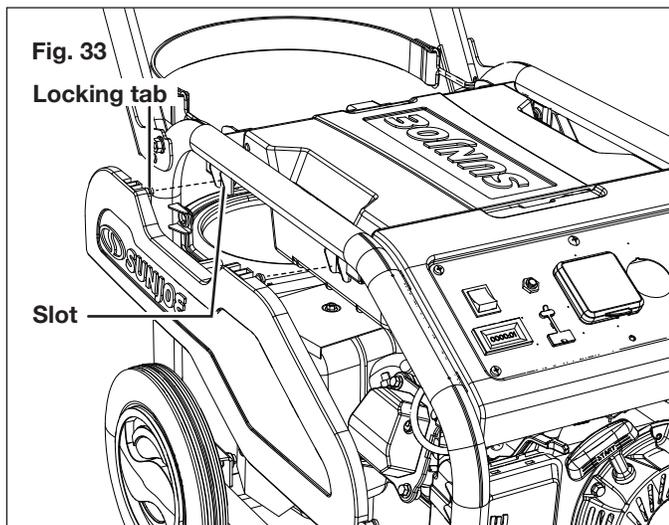

Fig. 33
9. Replace the left side panel by inserting the locking tabs into the slots on the generator's frame, and push at the bottom of the side panel to lock it in place (Fig. 33).